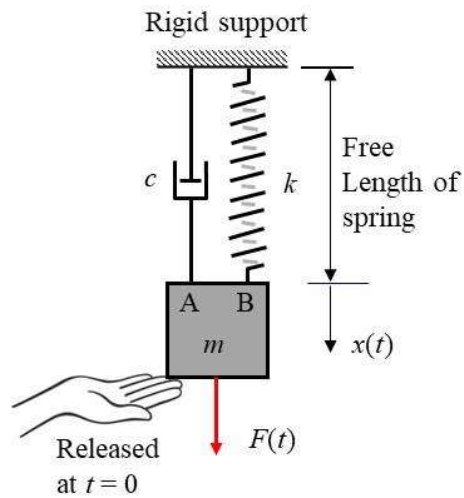

Figure 4
- (b) Figure 4 shows a mass  $m$  initially held by hand, and a spring of stiffness  $k$  and damper of damping constant  $c$  are now connected to the mass at A and B, respectively. The top ends of the spring and damper are connected to a rigid support. The spring is as such in unstrained condition when the mass is held by hand. Now, the mass is released suddenly by pulling the hand away. The weight of the mass causes a sudden downward loading and this sets the system into vertical oscillations.
Figure 4 appears on page 4.